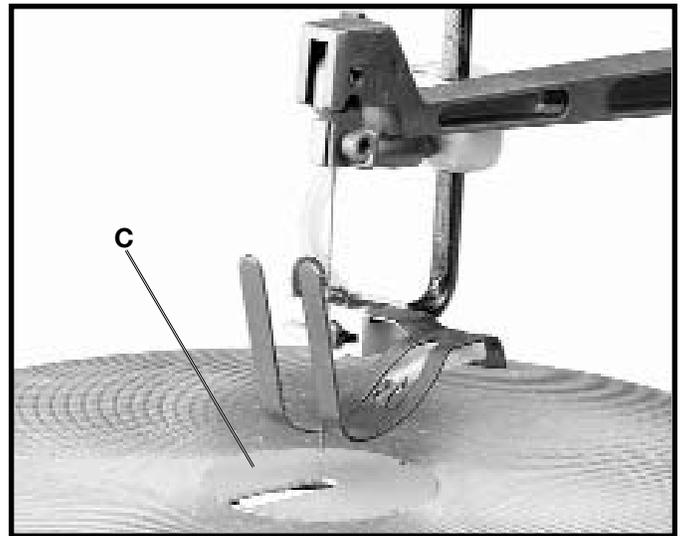

Fig. 9
7. Assemble table insert (C) Fig. 9, to table as shown. **NOTE:** Opening in table insert (C) should be positioned toward the front for normal work with the table in the level position and should be positioned toward the right when tilting the table.